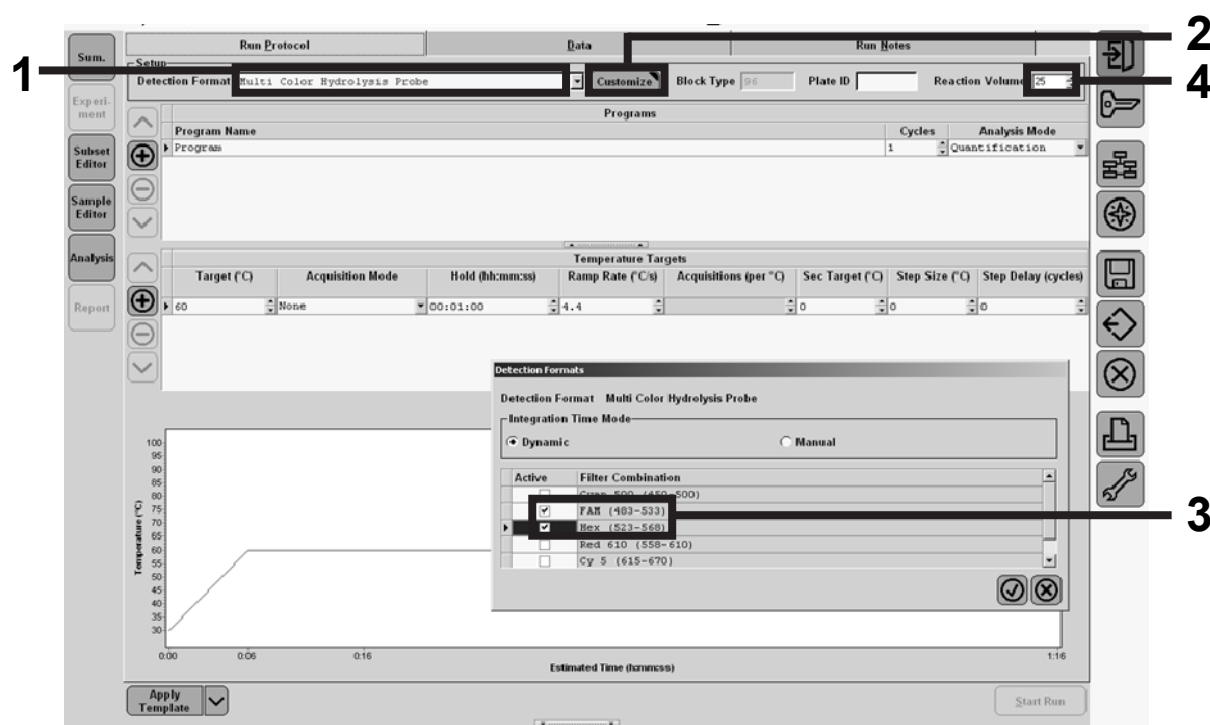

Figure 21. LightCycler 480 I: Setting the detection format.
- 11a. LightCycler 480 I: Select "Multi Color Hydrolysis Probe", click "Customize", and then check that the channels "FAM (483–533)" and "Hex (533–568)" (i.e., VIC) are selected (Figure 21). Set the reaction volume to "25"  $\mu$ l (Figure 21) and proceed with step 12.